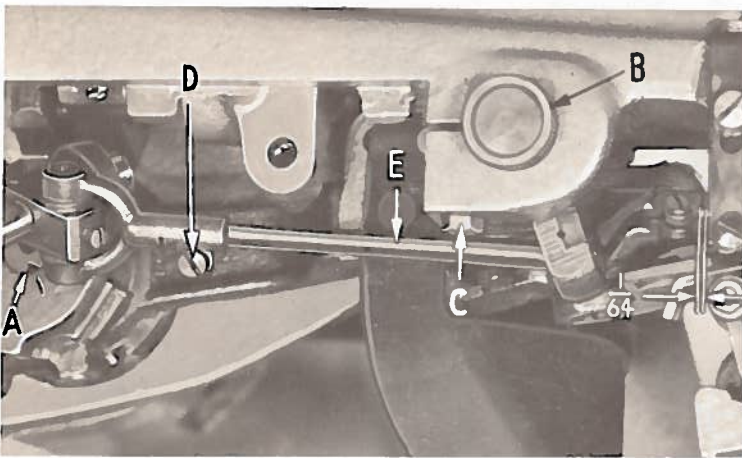

Fig. 5
Insert the looper in its holder so that the flat on its shank corresponds with flat on holder and so that there is  $1/64$  inch space between looper seat and holder (Fig. 5).
In the left end of the main shaft is a "V" groove, and on the looper crank, there is a timing line (A, Fig. 5).
The looper adjusting sleeve (B, Fig. 5) positions the looper laterally, and also provides a limited amount of vertical or height adjustment. Lateral adjustment is secured by loosening the clamp screw (C) and pulling the adjusting sleeve in or out. Vertical or height adjustment is secured by turning the sleeve.